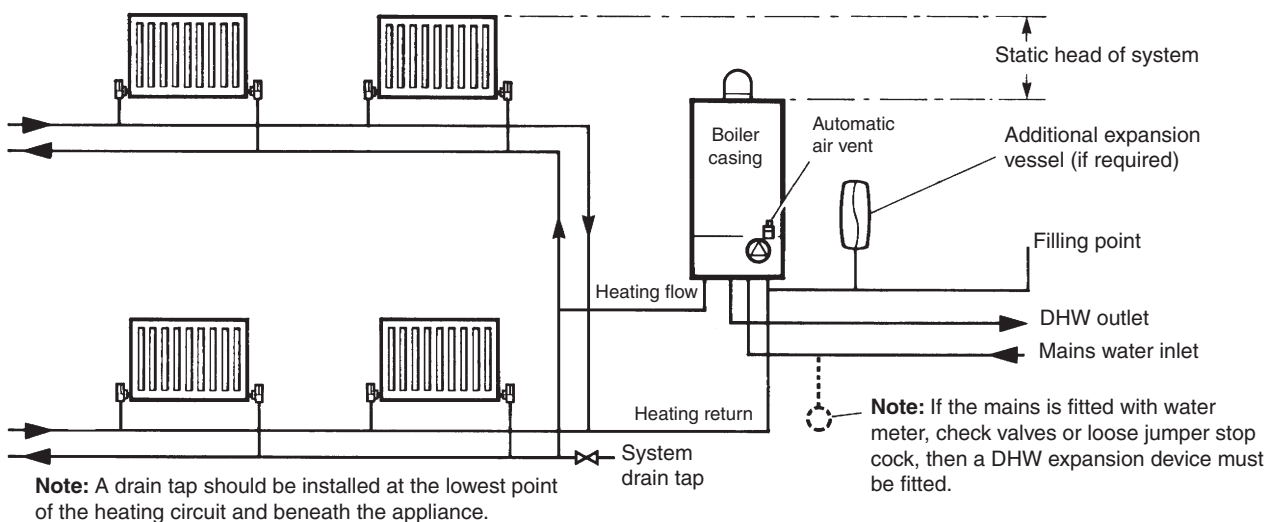

Fig. 6
### 3.7 CENTRAL HEATING SYSTEM - Fig. 6
**System volume** - The expansion vessel incorporated into the boiler is suitable for a sealed heating system with a maximum water content of 80 litres (18 gal). Above 80 litres, consideration should be given to fitting an additional expansion vessel fitted in the position shown in Fig. 6. To check correct operation of the expansion vessel(s) the system pressure should not be more than 2.5 bar when the system is at maximum operating temperature (for further guidance refer to BS 7074:1).
The system design pressure (cold) should be set to 1.0 bar. This pressure is equivalent to a static head (see Fig. 6) of 10.2 metres of water.